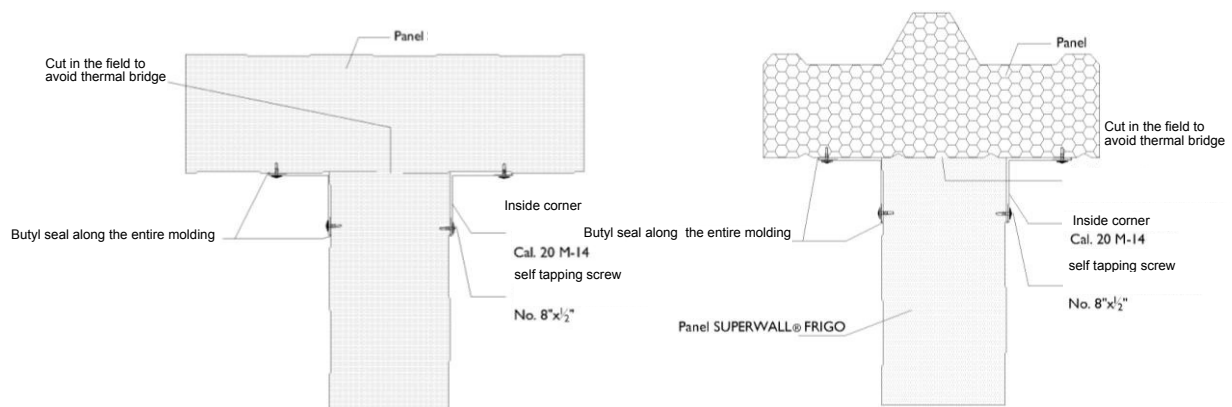

Fig. 11
4.3.14 As you fix wall sections, install the finishing profiles for corners of walls and ceilings using #8x1/2" self-tapping screws and butyl seals and sheets special for vapor barriers. (Fig. 11)